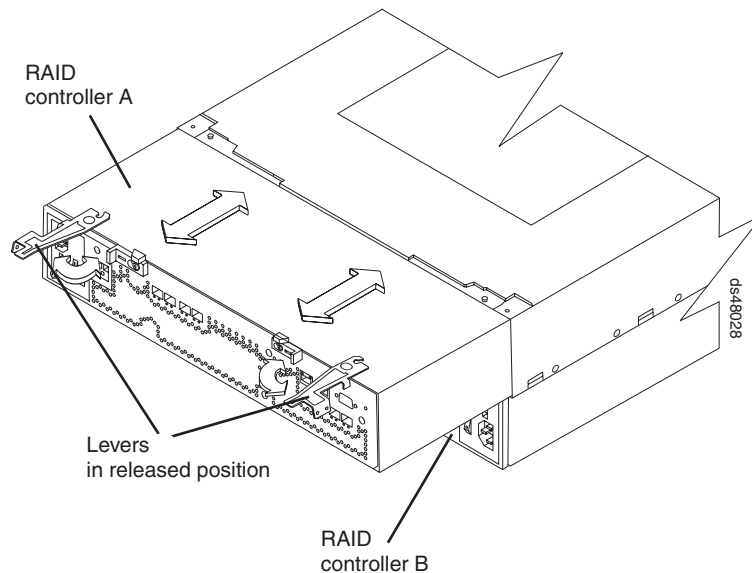

Figure 23. Replacing the controllers
3. Replace the controllers at the back of the DS4800. Figure 23 shows the location of the controllers and the controller levers. Ensure that controller A is returned to the upper slot and that controller B is returned to the lower slot.